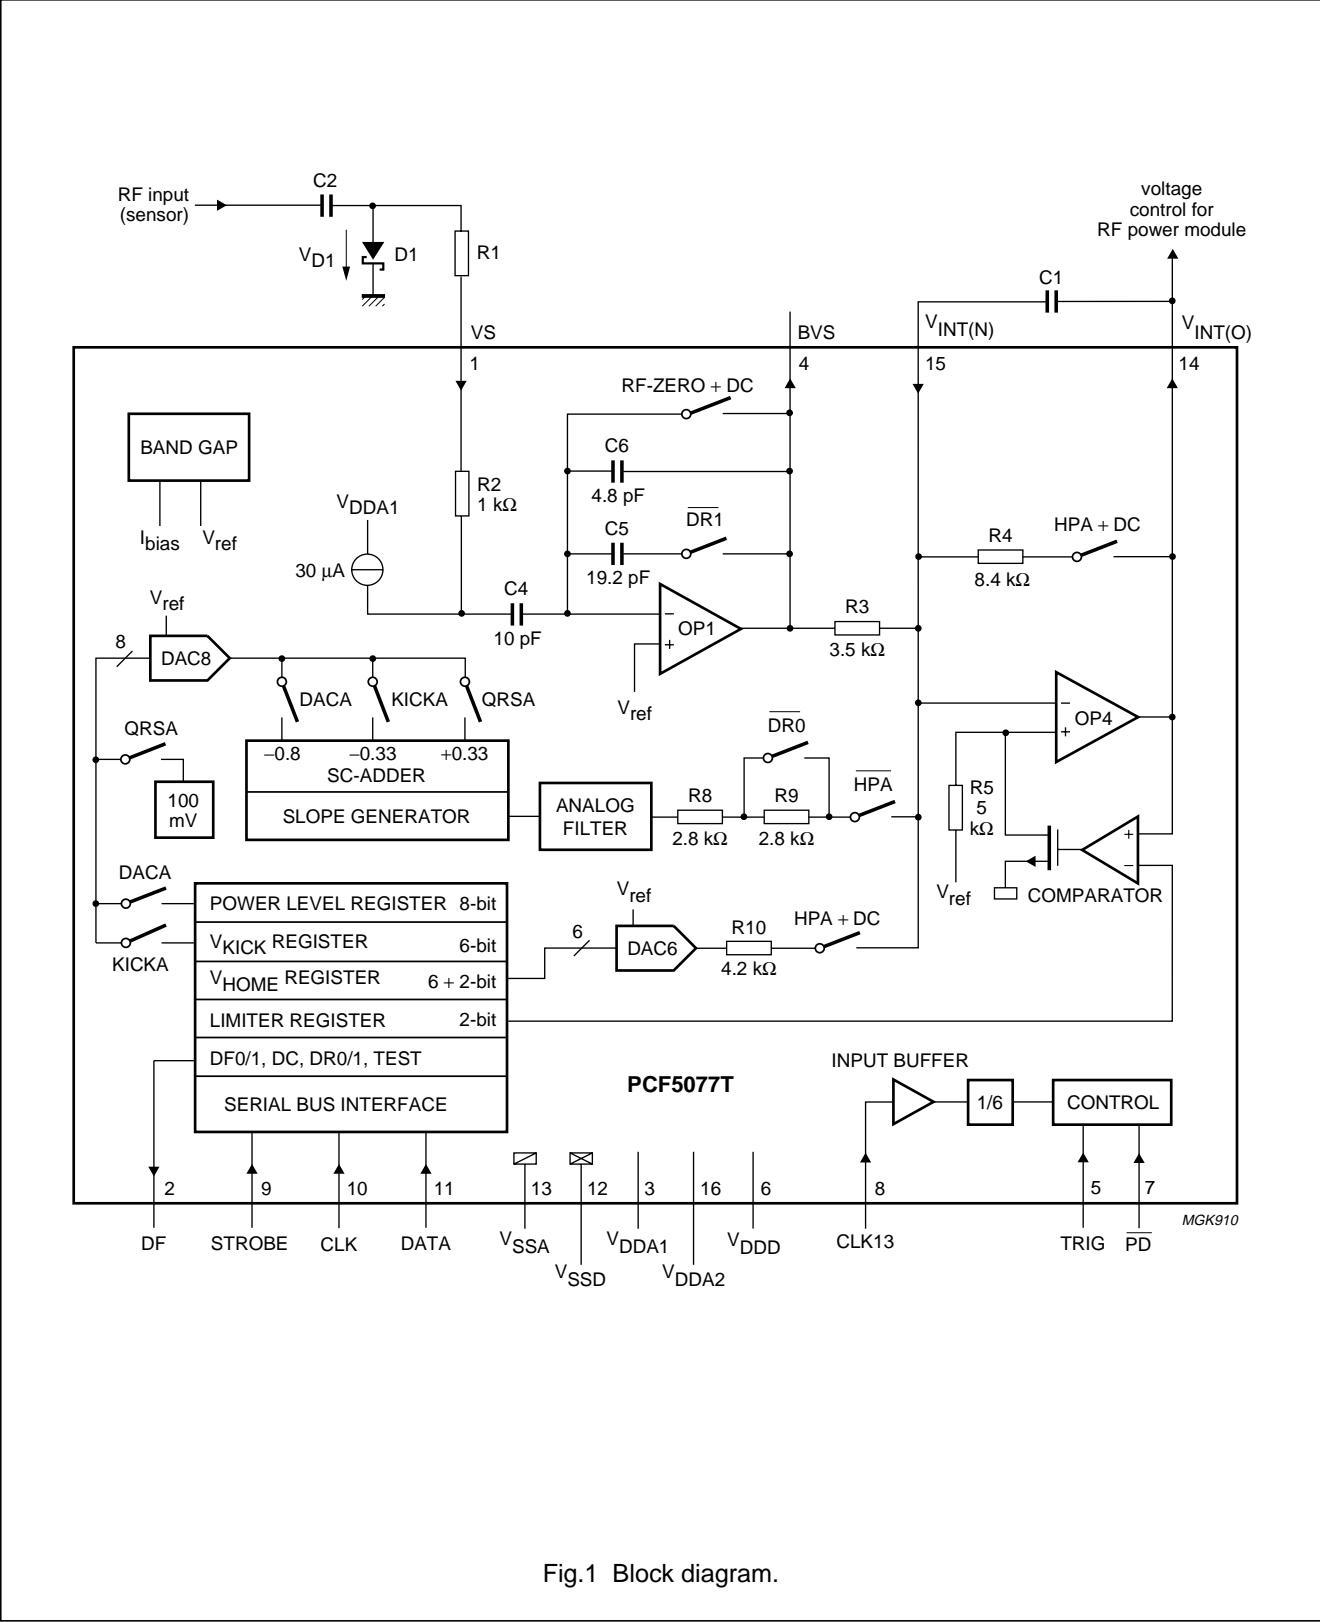

Fig.1 Block diagram.
This CMOS device integrates operational amplifiers, two digital-to-analog converters and a serial bus interface to implement an 'Integrating-Controller' (see Fig.1). It is designed to control both the power level and the up- and down-ramping of GSM/PCN transmit bursts.
- The external capacitor C1 in Fig.1 determines the maximum bandwidth of the power control loop,
Table 1 Definition of some voltages used in Figs 1 and 3